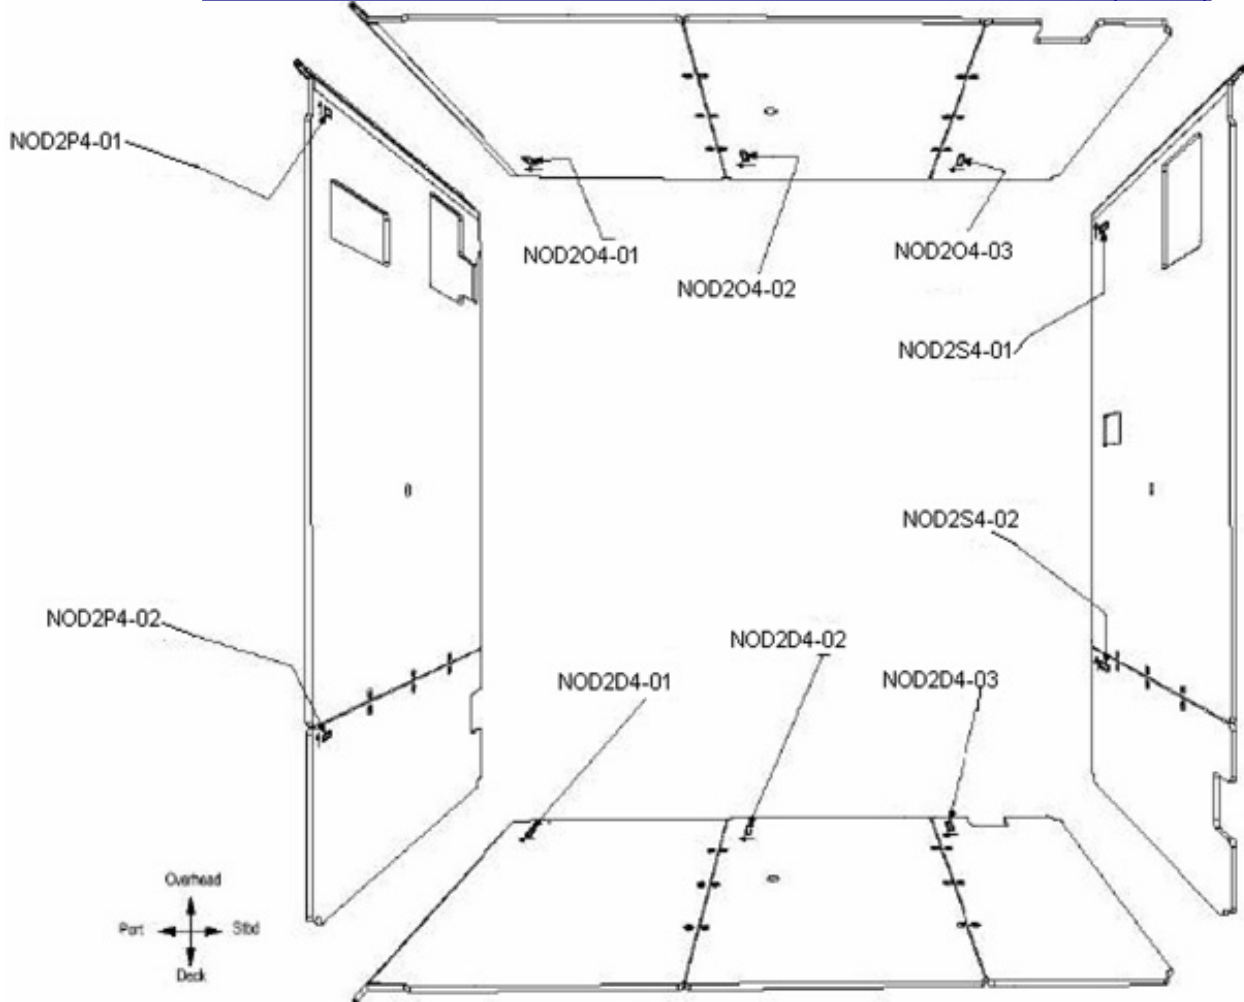

Figure 10. Node 2 Avionics Rack Looking Forward.
- 5.1 Remove Launch Restraint Bolts (seventy-four) from Node 2 Avionics Rack (Driver Drill; Hex Shank, 1/4" Drive; 5/32 Hex Head, 1/4" Drive) Stow Bolts and Washers in labeled 6 x 6 Ziplock Bag. Photo document final configuration (DCS 760 Camera). Refer to Figure 10, Table 6.